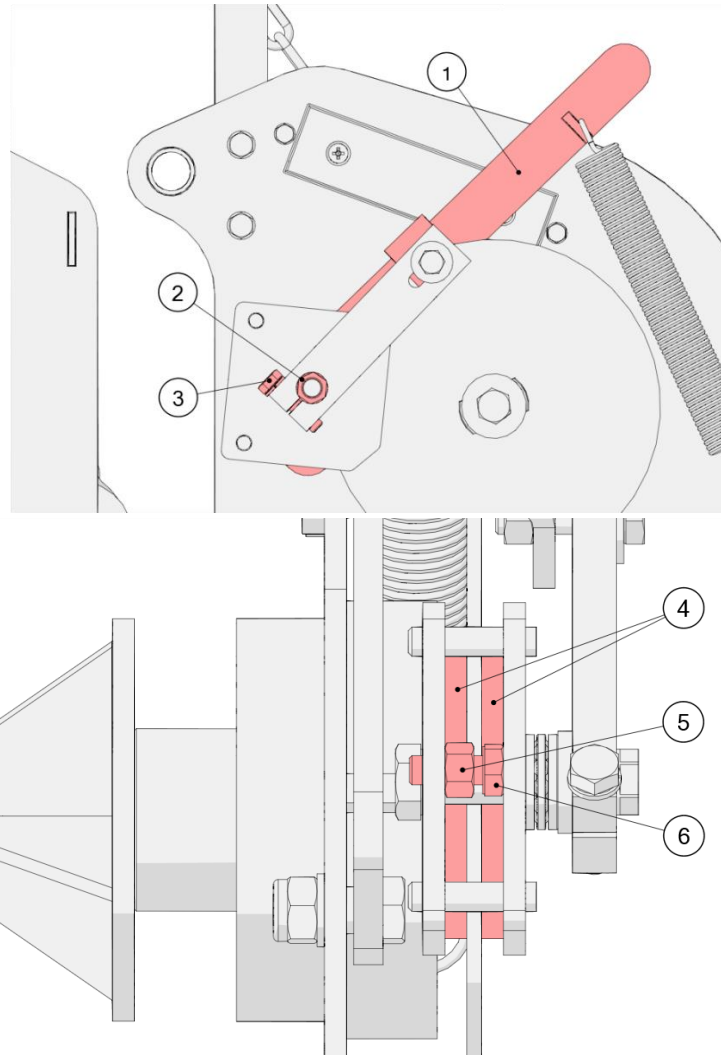

Figure 61. Adjusting the brake of the net wrapper
The net wrapper's brake should be adjusted in such a way that it is not possible to rotate the brake disk manually, after the lever (1) (Figure 61) has been shifted. To adjust the brake, do the following:
- Loosen the bolt (3), as shown in Figure 61;
- Tighten the threaded bushing (2) so that the brake linings (4) are fully seated on the brake disks;
If the brake linings (4) are worn on one side (see Figure 61):
- Loosen the nut (5);
- Tighten the bolt a little (6) so that the linings are parallel to one another;
- Tighten the nut (5).